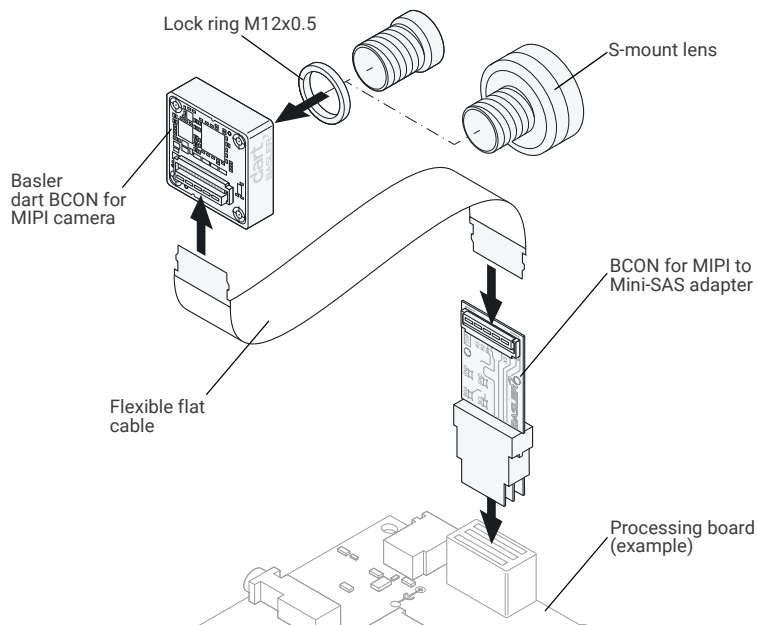

Fig. 2: Installation of the Hardware Components of the Add-On Camera Kit
1. Attach the lock ring on the thread of the lens (see Figure 2).
5. Connect the adapter board to the processing board and ensure that the adapter board is oriented as shown in Figure 2.